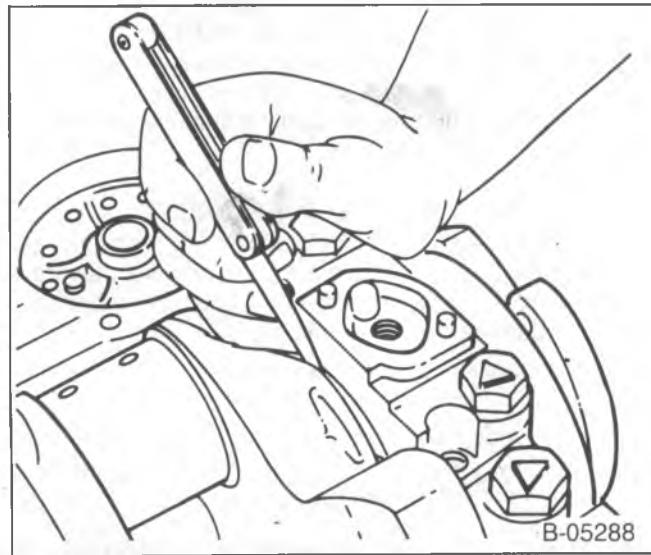

Figure 55—Measuring Crankshaft End Play
Measure (Figure 55)
2. With the crankshaft forced forward, measure at the front end of the rear main bearing with a feeler gage (figure 55). The proper clearance is 0.002–0.006-inch (5.0L and 5.7L engines), 0.006–0.010-inch (7.4L engines).